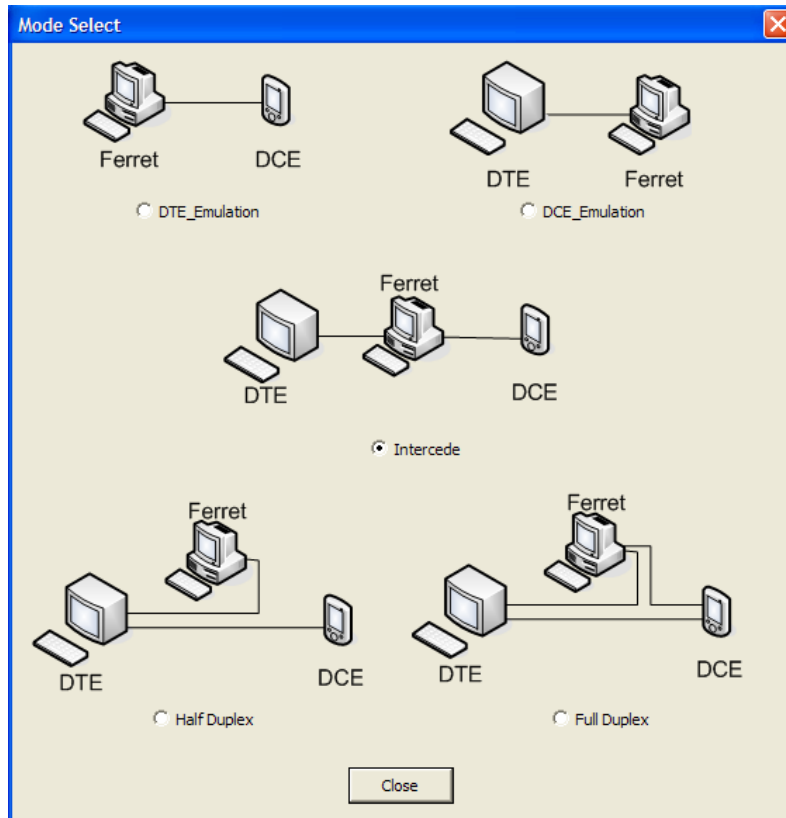

Figure 7 : Mode selection window allows user to select from five (5) modes
When the “Mode” button is pressed, a new dialog window will appear and allow the user to select from five (5) different modes. These modes are described in text with an accompanying diagram to help illustrate the exact usage of the mode (Figure 7).